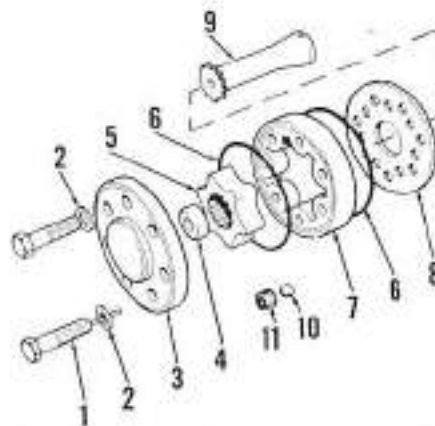
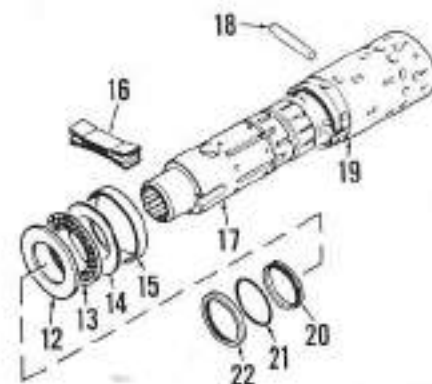

Fig. 32—Exploded view showing steering valve rotor set, drive shaft and related parts.
Fig. 33—Exploded view of steering valve spool, sleeve, bearings and seals.
54. With steering valve removed as outlined in paragraph 52, disassemble as follows: Clamp unit lightly in a vise with rotor end up, remove the seven cap screws which retain end cap (3-Fig. 32) and discard sealing washers (2). Also note location of cap screw (1) which has the pin. Remove end cap (3), spacer (4), rotor set (5 and 7), plate (8) and drive shaft (9). Remove threaded insert (11) and steel ball (10). Remove unit from vise and push spool and sleeve (17 and 19-Fig. 33) assembly from bottom of housing. Remove washer (12), bearing (13), bearing race (14) and centering spring retaining ring (15) from valve spool and sleeve. Remove drive pin (18), then push spool (17) out of sleeve (19) toward centering spring end. Remove the six centering springs (16) from spool. Carefully pry seal (22) from housing, then remove the "O" ring (21) and seal ring (20) assembly. Discard all seals and "O" rings.
Slide spool (17-Fig. 33) into sleeve (19) and align centering spring slots. The fit of these two parts is very close and turning the spool slightly while inserting will aid installation. Assemble centering springs (16) in two sets of three each, then with arches facing one another, insert springs through sleeve and spool.
Install drive pin (18-Fig. 33) and be sure ends of pin are flush with outer surface of sleeve. Install centering spring retaining ring (15), bearing race (14), bearing (13) and washer (12) on spool and make sure that chamfer on inside diameter of bearing race faces away from bearing. Use a suitable driver and install shaft seal (22) in valve body with lip toward outside. Grease "O" ring (21), install it on outside diameter of seal ring (20), then install assembly on end of spindle of Case tool number 964172 (See Fig. 34). Push seal and spindle into sleeve of special tool until firm resistance is met and insert assembly into valve body until sleeve bottoms. Use a rotating motion and push on tool spindle until "O" ring seats in body and remove tool. Install sleeve, spool and bearing assembly into body and rotate assembly as it passes through seal assembly, then with assembly installed, position so that drive pin is at right angles to the flat surface containing pipe (hose) ports. Place unit in a soft jawed vise with bottom end up and install check ball (10-Fig. 32) and threaded insert (11). Do not overtighten the threaded insert. Place new "O" ring in body, then install drive shaft (9) with slot engaging drive pin. Install plate (8) and align oil holes with oil holes of body. Install rotor (5) over splines of drive shaft and **BE SURE** that one valley of the rotor aligns with drive pin slot of drive shaft.